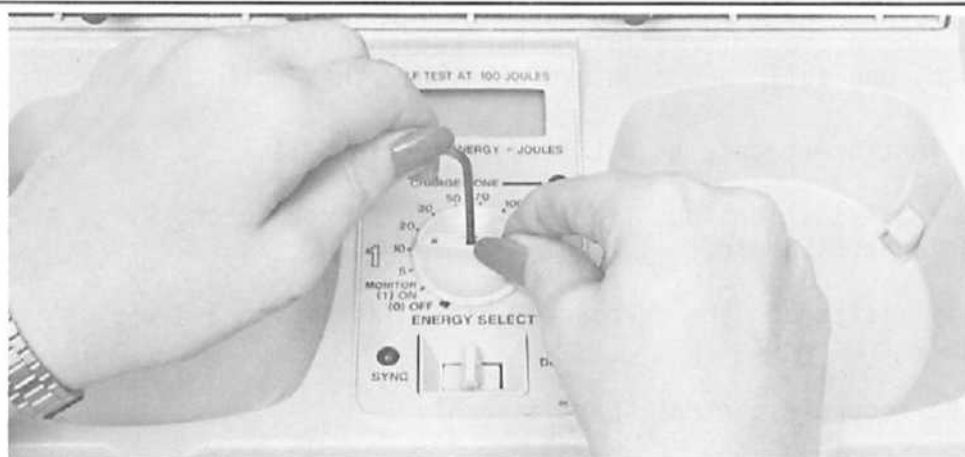

Figure 4-18.
2. The knob is removed and reinstalled as described in section 4.2.14 and 4.2.15, except to tighten to 10 in/lb or 1/2 extra turn after snug (see Figure 4-18). Test to be sure the knob does not slip on the shaft.